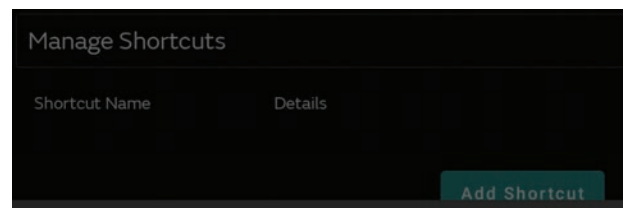

Figure 25. Create a Shortcut
3. Tap **Add Shortcut** to bring up the Add Shortcut box and keyboard (Figure 25).